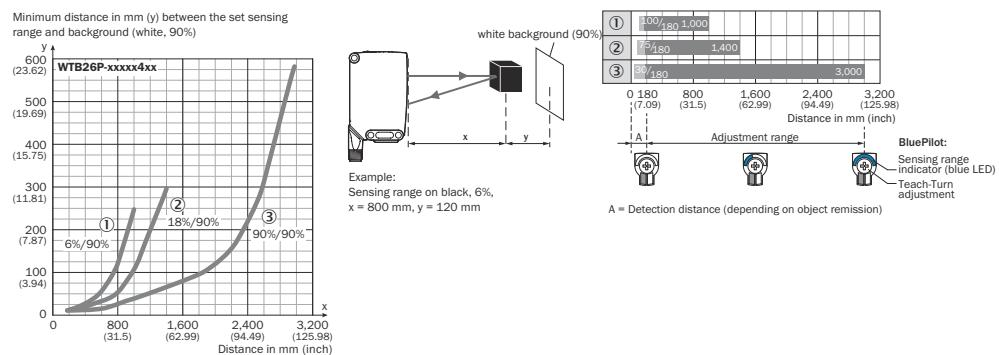

Figure 5: Characteristic line 2, WTB26 P-xxxxx4 xx, red light
Check the application conditions: Adjust the sensing range and distance to the object or background as well as the remission capability of the object according to the corresponding diagram [see figures 5 and 7] ( $x$  = sensing range,  $y$  = minimum distance between set sensing range and background (white, 90%)) Remission: 6% = black ①, 18% = gray ②, 90% = white ③ (referring to standard white as per DIN 5033). We recommend that the adjustment be performed with an object of low remission.